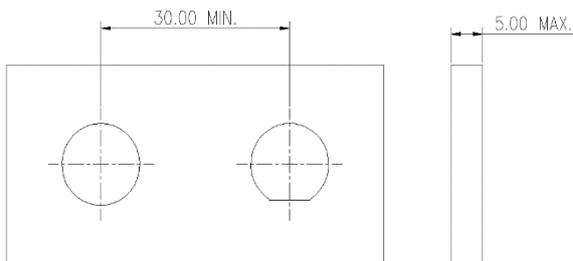

Figure 15
- ✧ 请确保墙板的厚度最大不超过 5mm，无论水平或垂直结构，钻孔间隙至少要有 30mm (如图 15)。
Please ensure the thickness of housing wall not more than 5 mm, for both horizontal and vertical mounting, the space of drilled hole is recommended at least 30 mm (Fig.15).